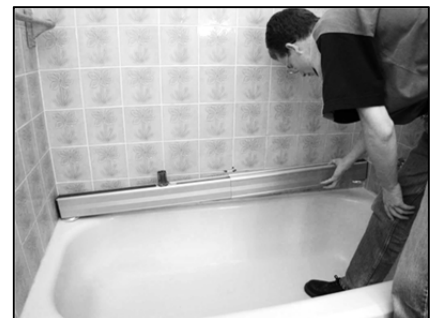

Figure 8
4. Place the bath base rail on the edge of the tub next to the wall, and extend the base so that it reaches each corner (see Figure 8).